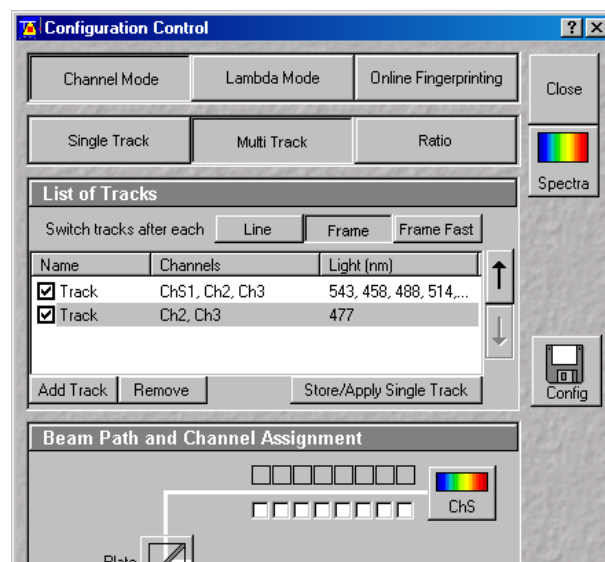

Fig. 15 Configuration Control window for Multi Track
- Select **Channel Mode** if necessary (Fig. 15).
- Click on the **Multi Track** button in the **Configuration Control** window (Fig. 15).
The following functions are available in the **List of Tracks** panel (Fig. 15).